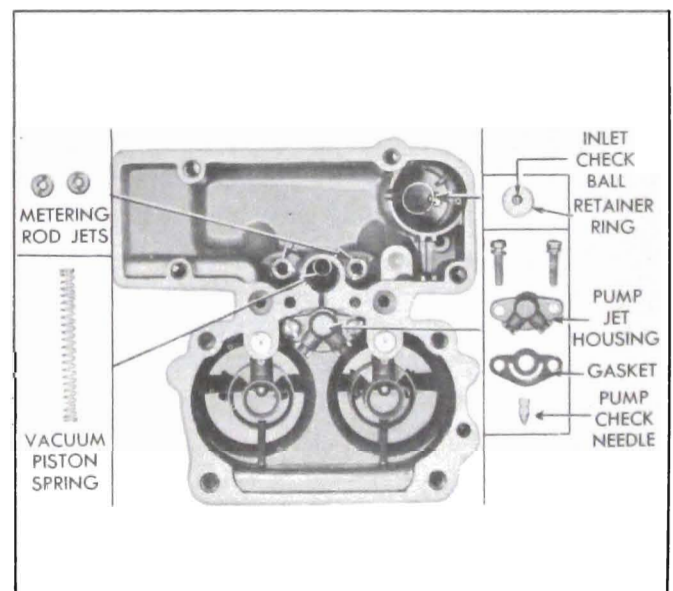

Figure 3-34—Main Body Parts
10. Remove air horn gasket from main body. Remove pump plunger assembly and lower pump spring. Remove vacuum piston spring. See figure 3-34.
12. Remove pump inlet ball check retainer using Remover T 109-56 or a stiff wire having a short hook on the end. Remove both metering rod jets. Remove pump jet screw, jet housing, and gasket. Invert carburetor and catch pump inlet check ball and outlet check needle. See figure 3-34.